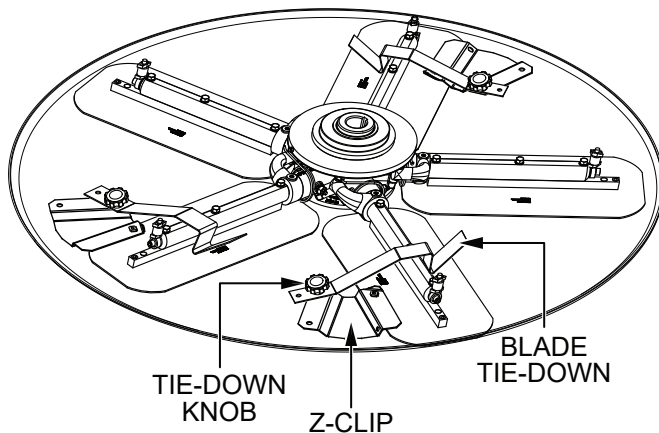

Figure 90. Float Pan Installation (Z-Clips)
4. Attach the blade tie-downs to the far side of the Z-clips using the tie-down knobs as shown in Figure 90.